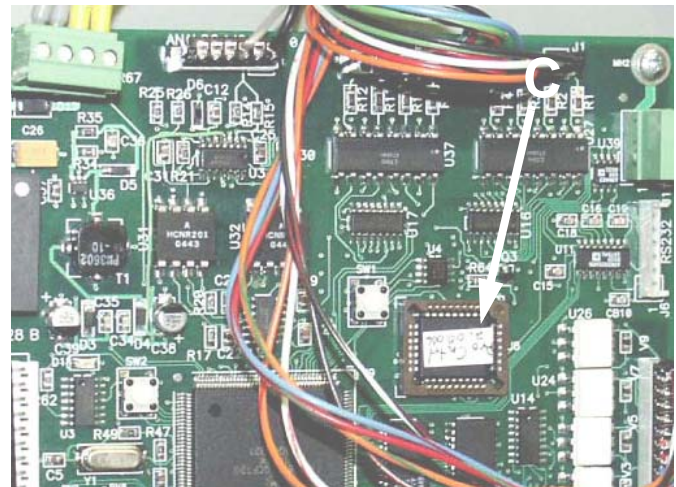

FIG. 15
3. Remove display board chip (C - FIG. 15) with removal tool.